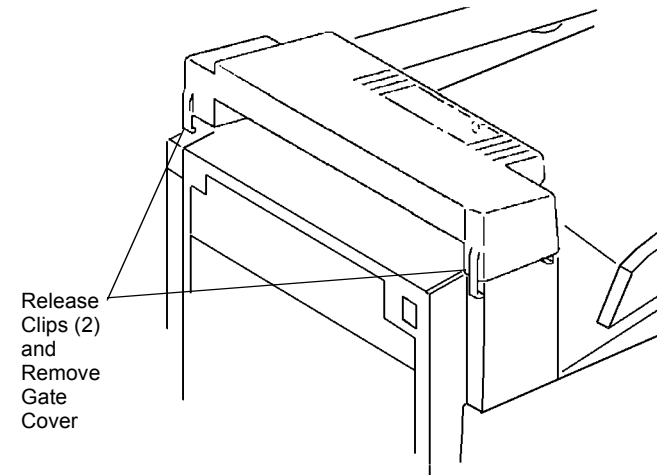

Figure 2 Removing Gate Cover
5. Remove Gate Cover (Figure 2).